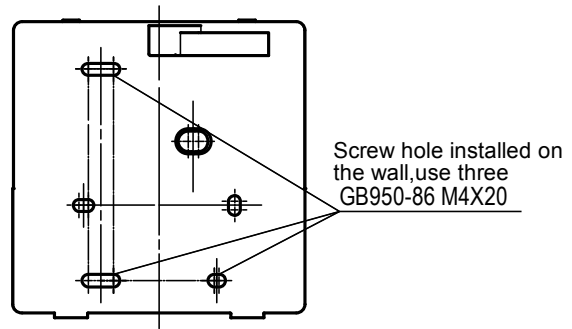

Figure 6
2) Use three GB950-86 M4X20 screws to directly install the back cover on the wall. (Fig.6)